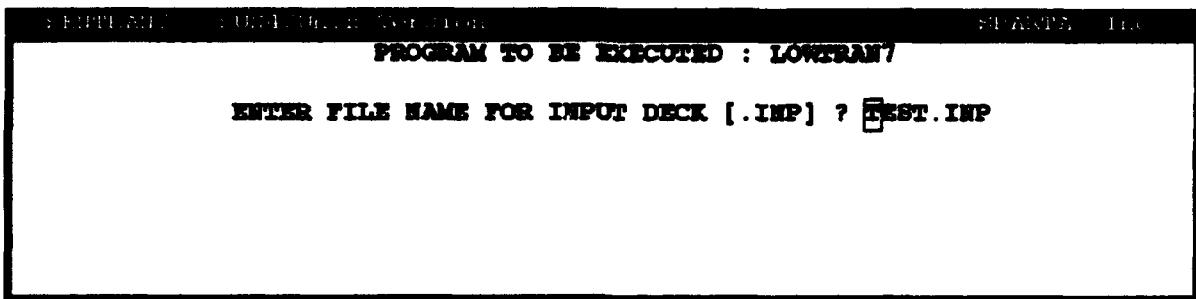

Figure 59. Example of the Prompt Asking the User to Enter the Name of the Input Deck
- 4) The program will now prompt you for the name of the input file to use for this run, as shown in Figure 59, with the default being the last input file that was compiled (the file created in Section 5.3.3). We will accept the default file (*TEST.INP*) by pressing RETURN.